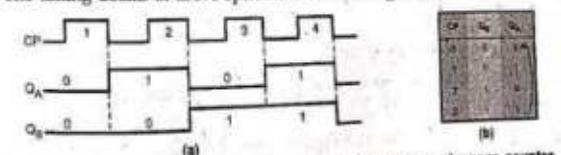

Fig. 5.9.31 Timing diagram and state sequence for the 2-bit synchronous counter
- The timing details of above operation is shown in Fig. 5.9.31.